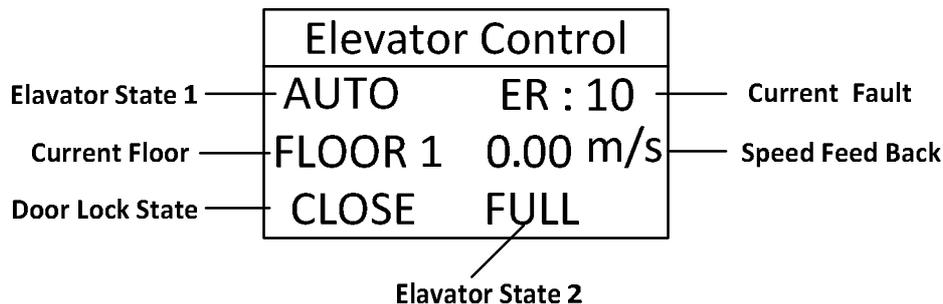

FIGURE 7.1 DIGITAL OPERATOR LCD SCREEN INTERFACE
- c. (Note: Connect digital operator before power on) After power on, first see if the main menu display is correct on LCD indicator. For example: elevator state, fault state, door lock state, current floor, running speed and else. In this way we can tell if the controller is working properly and whether 24V power supply is normal. Interface on digital operator LCD screen can be seen below in Figure 7.1.